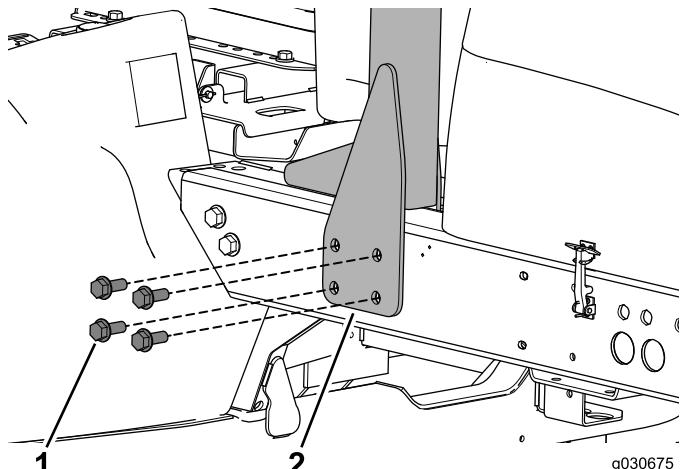

Figure 6
1. Remove and retain the bolts securing the ROPS to the left side of the machine (Figure 6).